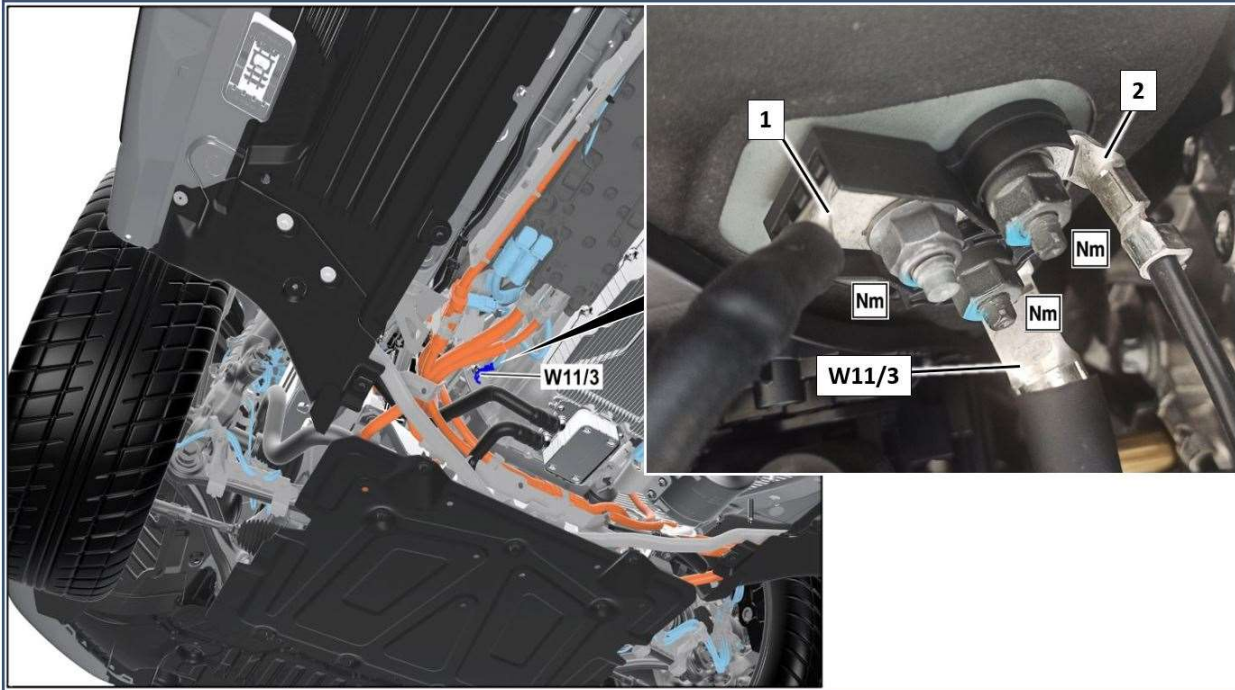

Figure 7
2. Check threaded connections at ground points (**Figure 7, 1, 2, & W11/3**) for correct tightening torque.
Left combustion engine ground point (**Figure 7, W11/3**) = 20 Nm
**Circuit 31** ground point with code B01 (**Figure 7, 2**) = 20 Nm
**Circuit 41** ground point, with engine 654 and code B01 (**Figure 7, 1**) = 16 Nm
1. Remove respective affected nut from ground point (**Figure 7, W11/3, 1, or 2**) and perform a visual check of the affected electric line, contact area, and weld stud.
1. Replace respective nut at ground point (**Figure 7, W11/3, 1, or 2**) and tighten with specified tightening torque.
Nm Left combustion engine ground point (**Figure 7, W11/3**) = 20 Nm
Nm Circuit 31 ground point with code B01 (**Figure 7, 2**) = 20 Nm
Nm Circuit 41 ground point, with engine 654 and with code B01 (**Figure 7, 1**) = 16 Nm